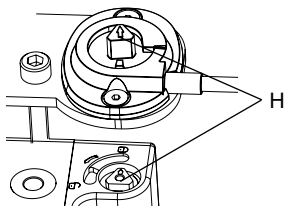

Figure 8
3. Note the alignment of the markings (arrows) on the triangle and adapter piece H (see Fig. 8).